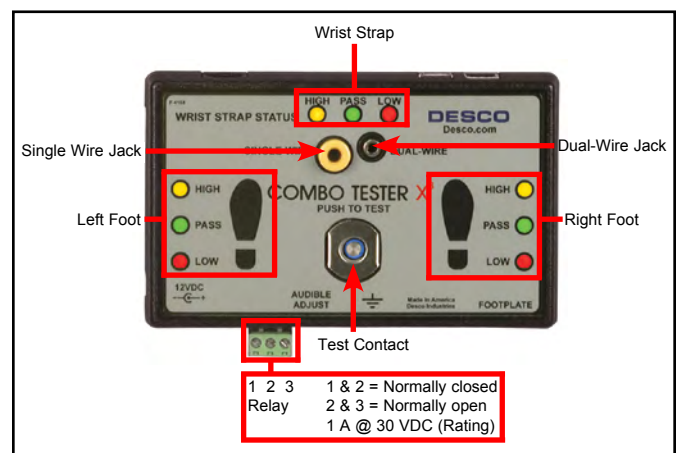

Figure 3. Combo Tester X3 panel
A relay with both “normally open” and “normally closed” contacts is included for your convenience. Going from left to right, the terminal block on the bottom of the tester has terminals for “normally closed,” “common,” and “normally open” (see Figure 3). The relay can be used for opening an electric lock to an ESD protective area. The maximum contact rating is: 1A@30VDC.
- II. While wearing the wrist strap and foot wear\*, plug the banana plug end of the cord into the jack (both single wire and dual wire wrist straps can be tested with the Combo Tester X3, make sure the correct jack is used. See Figure 3) on the face of the unit and step on to the test plate so that one foot is on each test plate. NOTE: DO NOT TOUCH ANY OTHER METAL WHILE PERFORMING TEST.